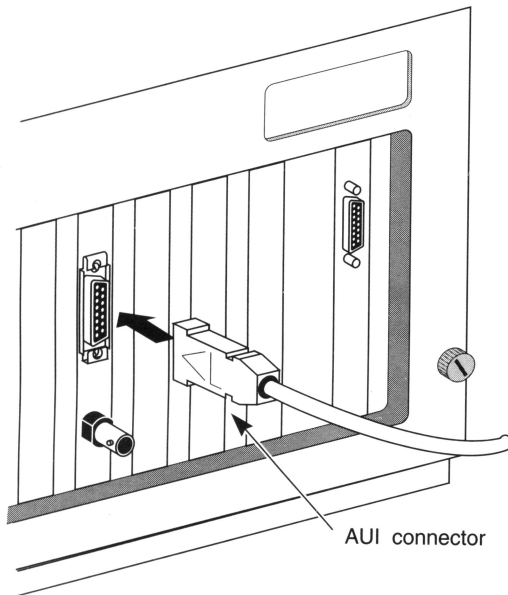

Figure 5-5. Connecting the AUI Cable
2. **Connect the AUI cable to the AUI connector on the adapter, as shown in Figure 5-5.**